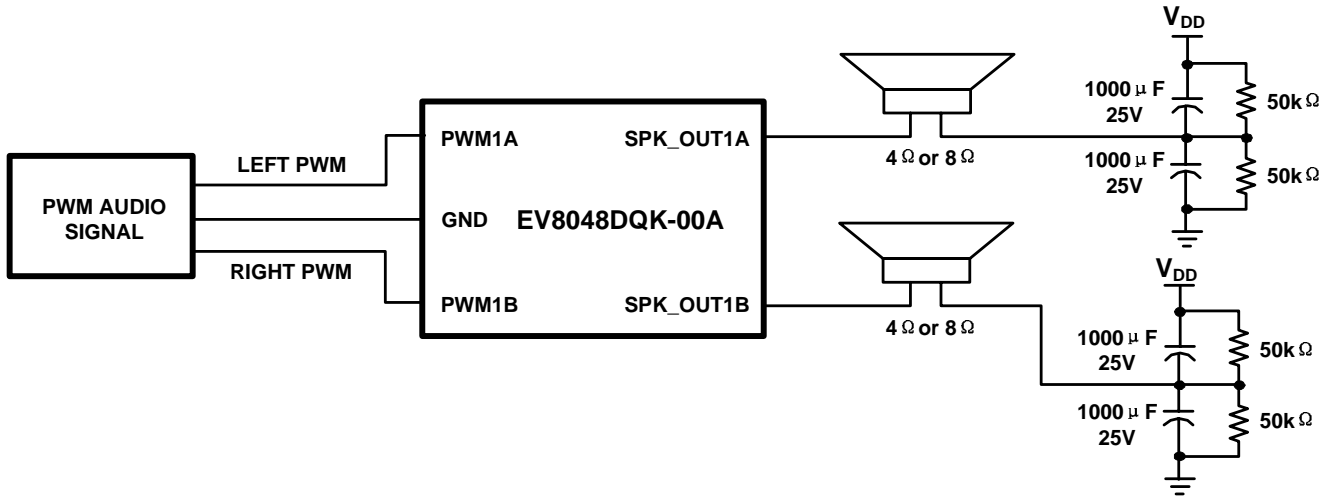

Figure 3—Setup for Single-Ended Operation (1 full-bridge only)
4. Take channel 1 (the full-bridge with output SW1A and SW1B) as an example. Remove C8 and connect the speakers as shown in Figure 3.